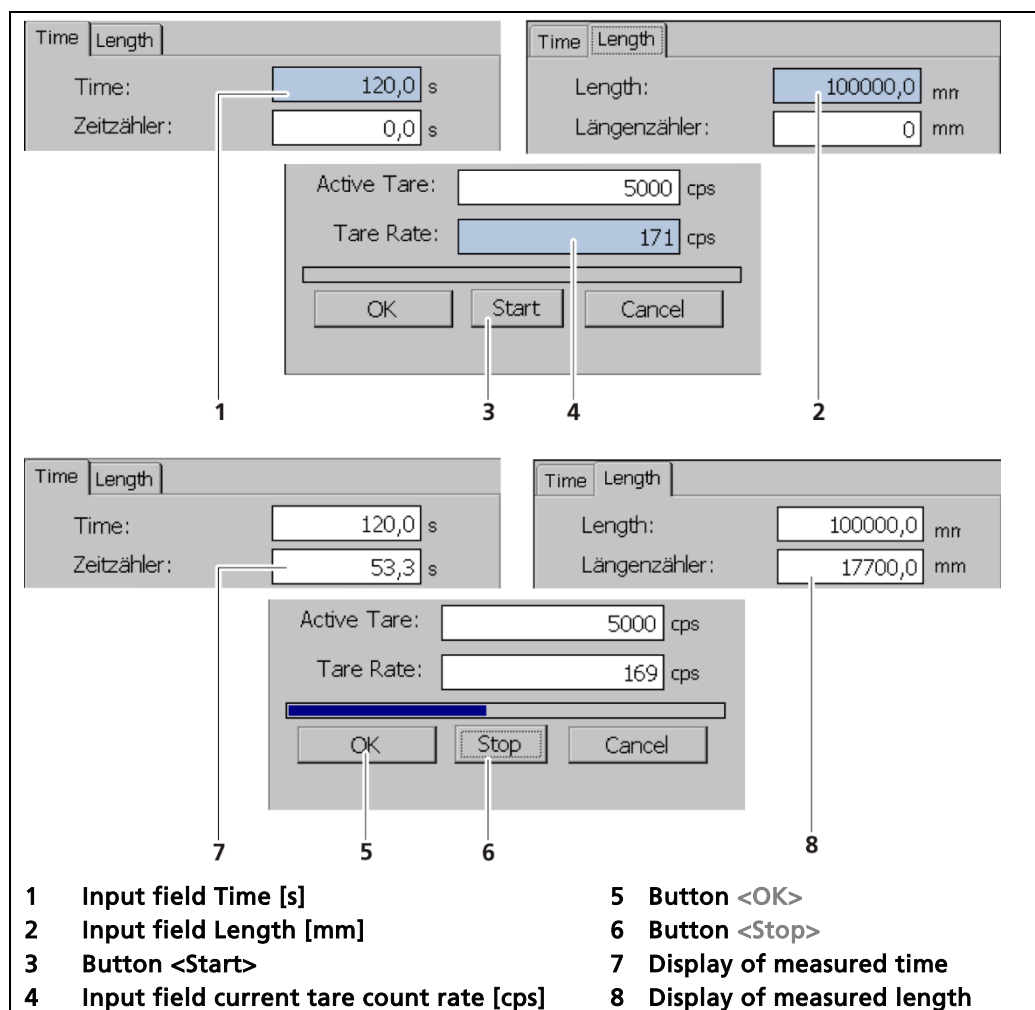

Fig. 85 Calibration settings: Environment
The measurement can be interrupted using the button <Stop> (Fig. 85, item 6). The values determined up to the point of interruption can be accepted provided that the count rate had been centred out for an adequate period and that a complete belt circulation had been carried out.
The value of the tare measurement may be entered manually (Fig. 85, item 4), if the count rate of the tare measurement is known.
2. Enter a multiple of the time for a circuit in the input box (Fig. 85, item 1).
- ▶ The tare measurement is carried out and the measured time (Fig. 85, item 7) is displayed.
4. Click on the button <OK> (Fig. 85, item 5) to save the tare measurement.
1. Enter the total length of the belt (top and bottom runs) into the input box (Fig. 85, item 2).
2. Click on the button <Start> (Fig. 85, item 3) to start the tare measurement.
3. The tare measurement is carried out and the measured length (Fig. 85, item 8 "Length Counter") is displayed.